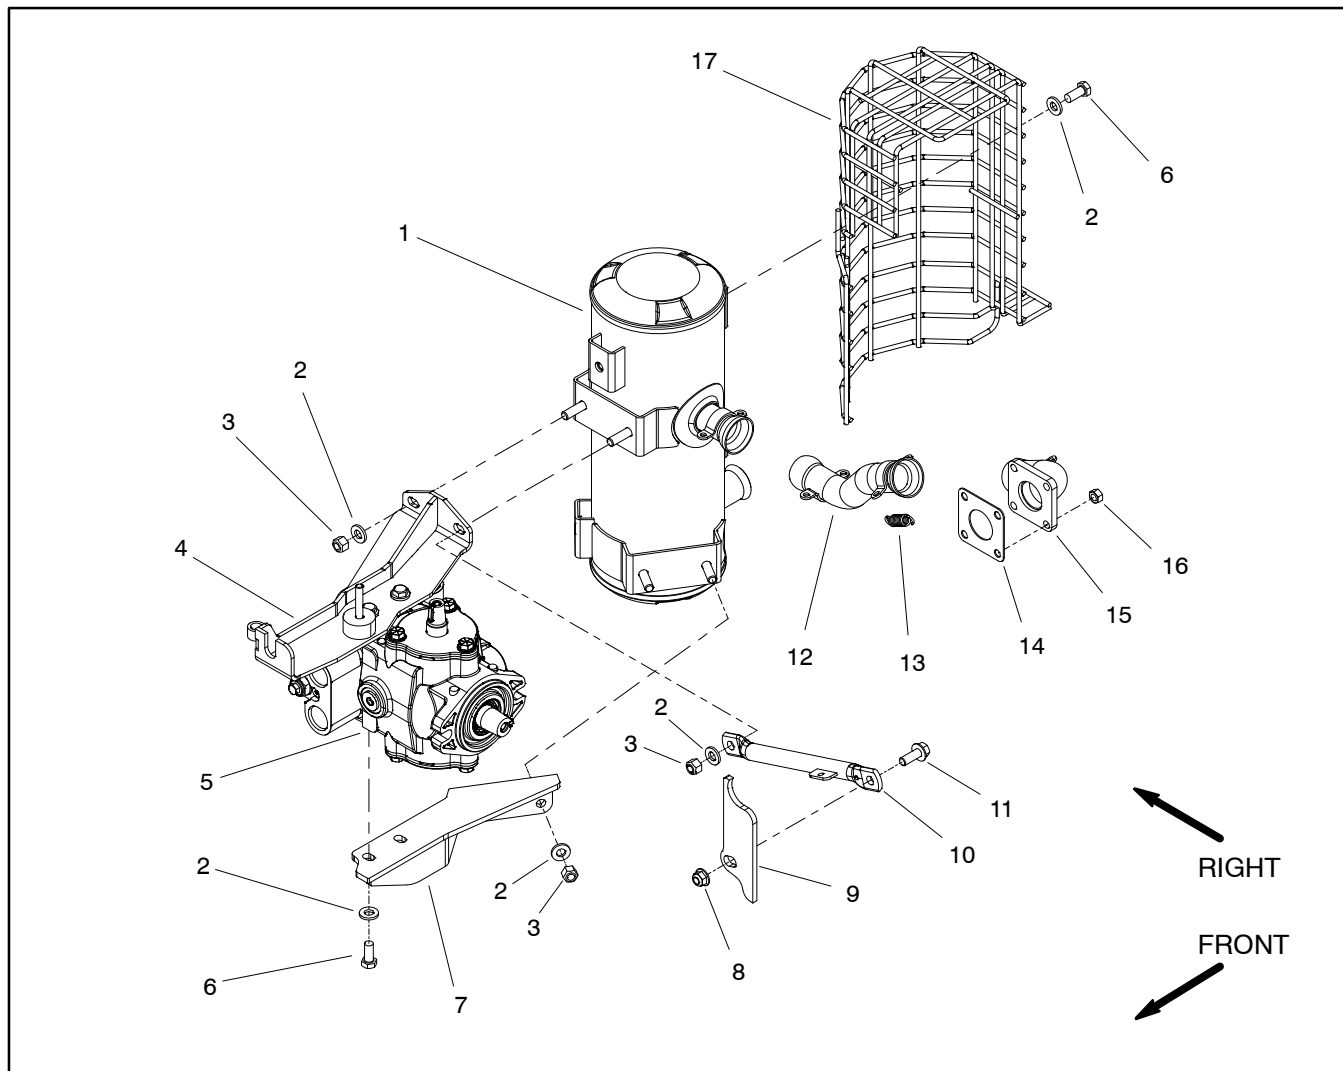

Figure 6
Exhaust System Removal (Fig. 6)
2. Remove exhaust system components as needed using Figure 6 as a guide.
Exhaust System Installation (Fig. 6)
3. Assemble all removed exhaust system components using Figure 6 as a guide.